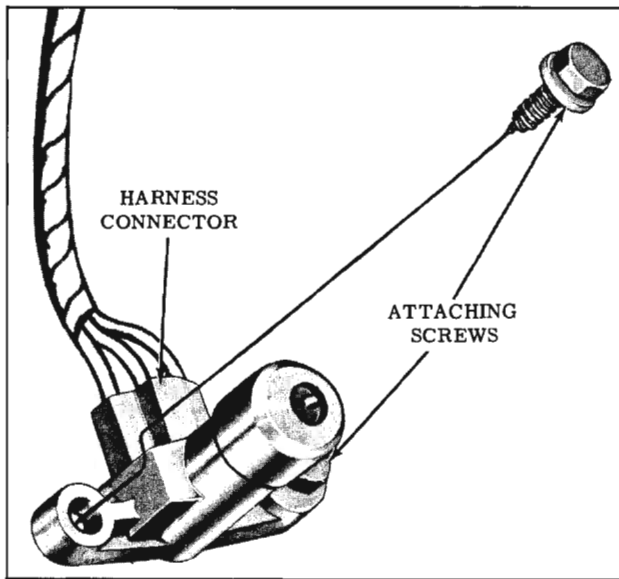

Fig. 14-140 Dimmer Switch
2. Disconnect wire connector from dimmer switch. (Fig. 14-140)